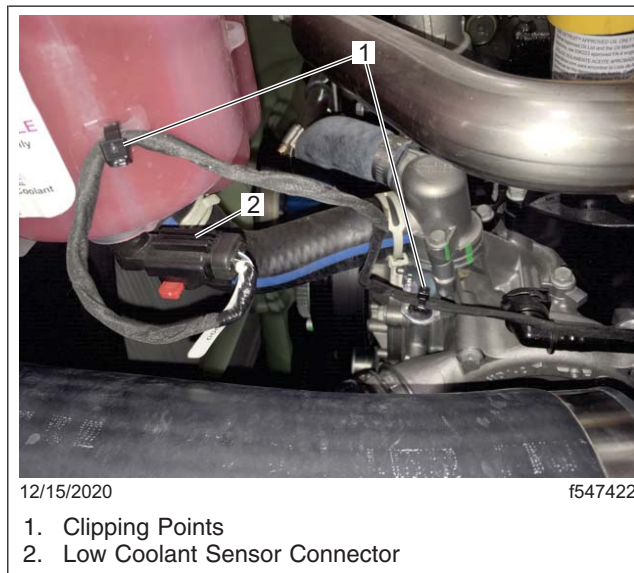
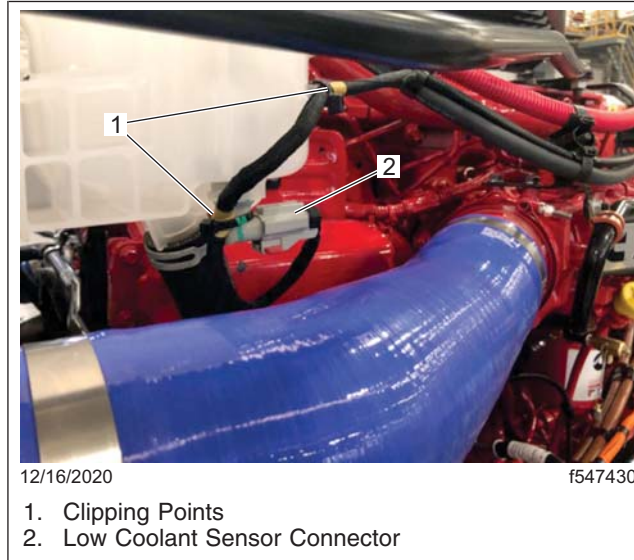

Fig. 1, Inspection Areas for Detroit Engines
Fig. 2, Inspection Areas for Cummins Engines
4. Inspect the low coolant sensor and the wiring harness area near the clipping points and within two feet of the sensor connector for broken or chafed wires. See Fig. 1 and Fig. 2.